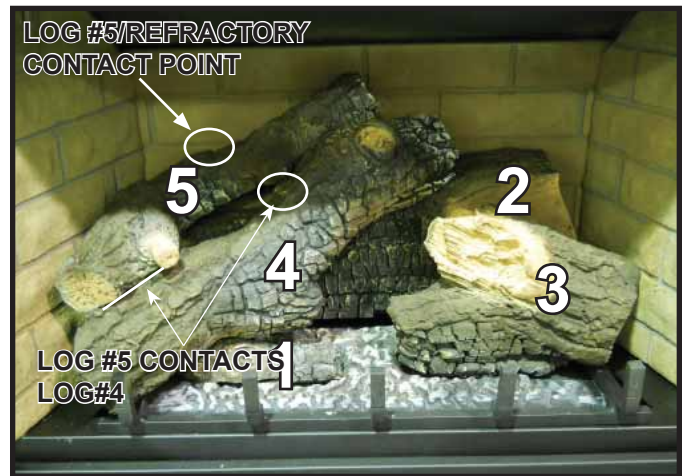

Figure 5.
**LOG #5 (SRV2117-705):** Place log #5 on log #2. Log #5 will mate with Log #4 in the flat areas located on the top side of Log #4. The protrusion on Log #5 will mate with the recess on Log #4. See Figure 5.